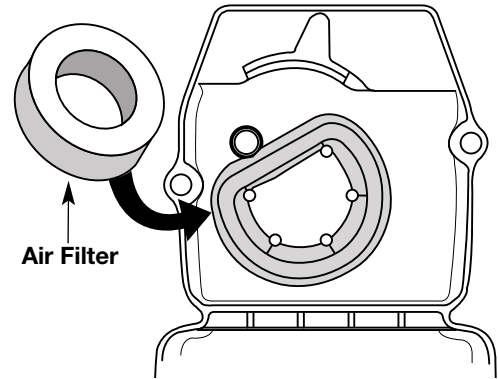

Fig. 34
2. Remove the air filter from behind the air filter/muffler cover (Fig. 34).
6. Replace the air filter in the air filter/muffler cover (Fig. 34).